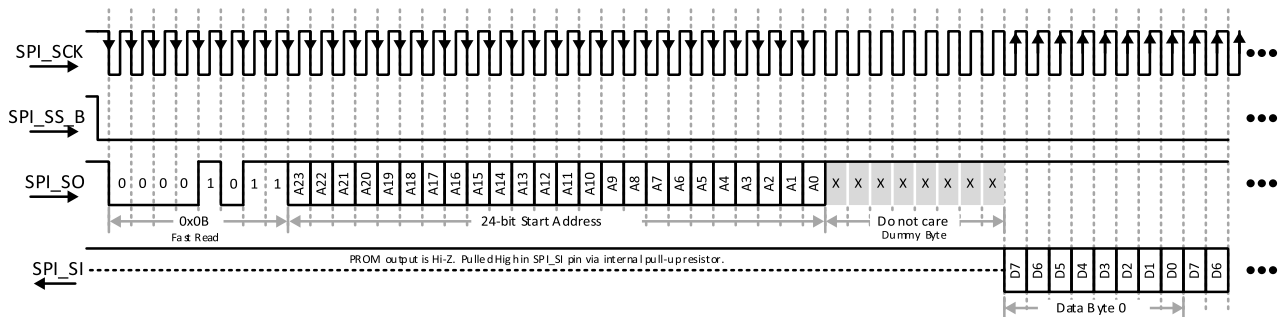

Figure 9.4. SPI Fast Read Command
- The PROM must support the 0x0B Fast Read command, using a 24-bit start address and has 8 dummy bits before the PROM provides first data (see Figure 9.4).
Figure 9.4 illustrates the next command issued by the iCE40 device. The iCE40 SPI interface again drives SPI_SS_B Low, followed by a Fast Read command, hexadecimal command code 0x0B, followed by a 24-bit start address, transmitted on the SPI_SO output. The iCE40 device provides data on the falling edge of SPI_SS_B. Upon initial power-up, the start address is always 0x00_0000. After waiting eight additional clock cycles, the iCE40 device begins reading serial data from the SPI PROM. Before presenting data, the SPI PROM's serial data output is high-impedance. The SPI_SI input pin has an internal pull-up resistor and sees high-impedance as logic '1'.